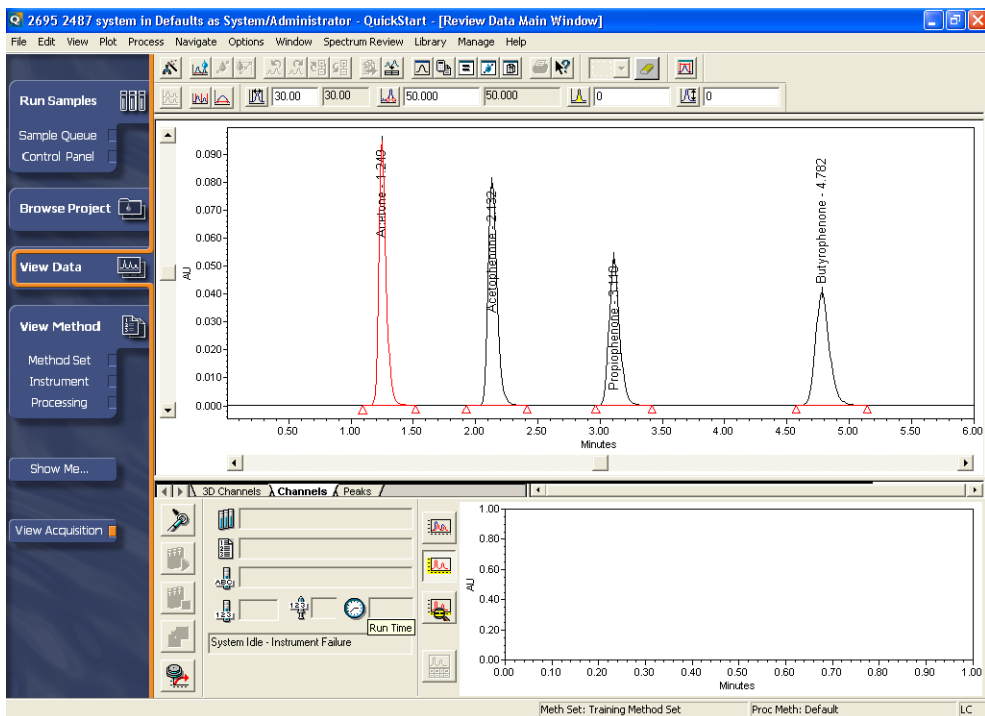

Figure 4-17 View Data Window, Channels Tab
3. The View Data window appears with the data loaded from the Test Injection in the Channels tab (Figure 4-17).